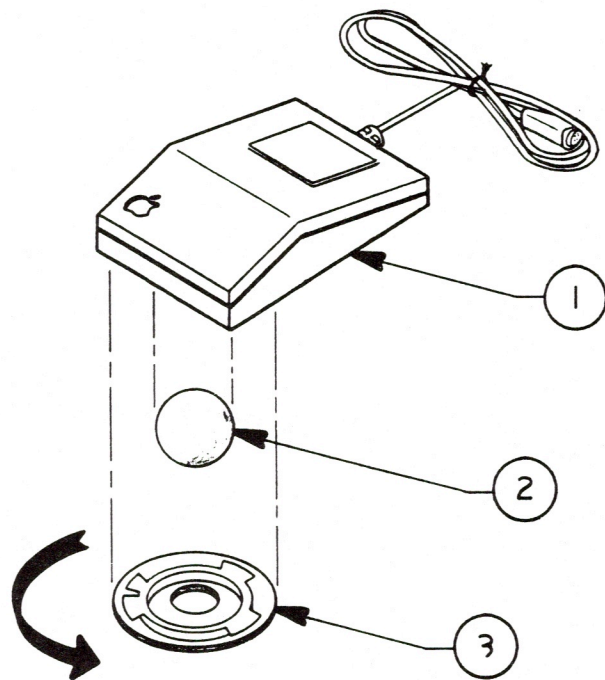

FIGURE 6
□ MACINTOSH II – MOUSE (Figure 6)